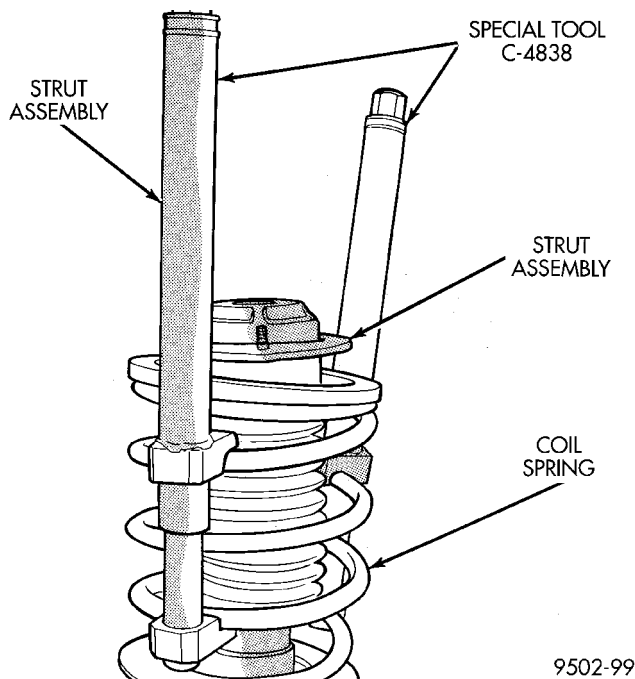

Fig. 60 Compressing Strut Assembly Coil Spring
WARNING: WHEN COMPRESSING COIL SPRING FOR REMOVAL FROM STRUT ASSEMBLY, THE FIRST FULL TOP AND BOTTOM COIL OF THE COIL SPRING MUST BE CAPTURED BY THE JAWS OF THE COIL SPRING COMPRESSOR (Fig. 60).
(3) Compress the strut assembly coil spring, using Spring Compressor, Special Tool C-4838 (Fig. 60).